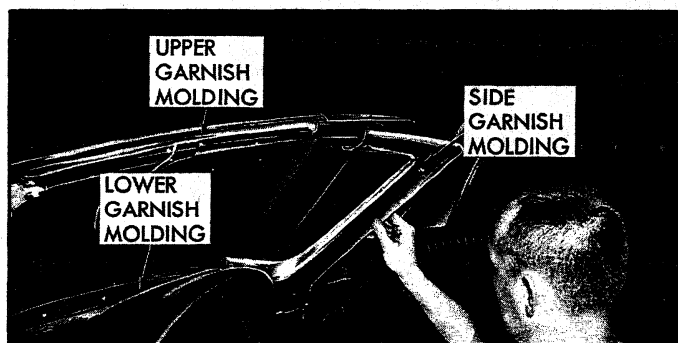

Fig. 13—Removing Garnish Moldings
1. Remove side, upper and lower garnish moldings (fig. 13).